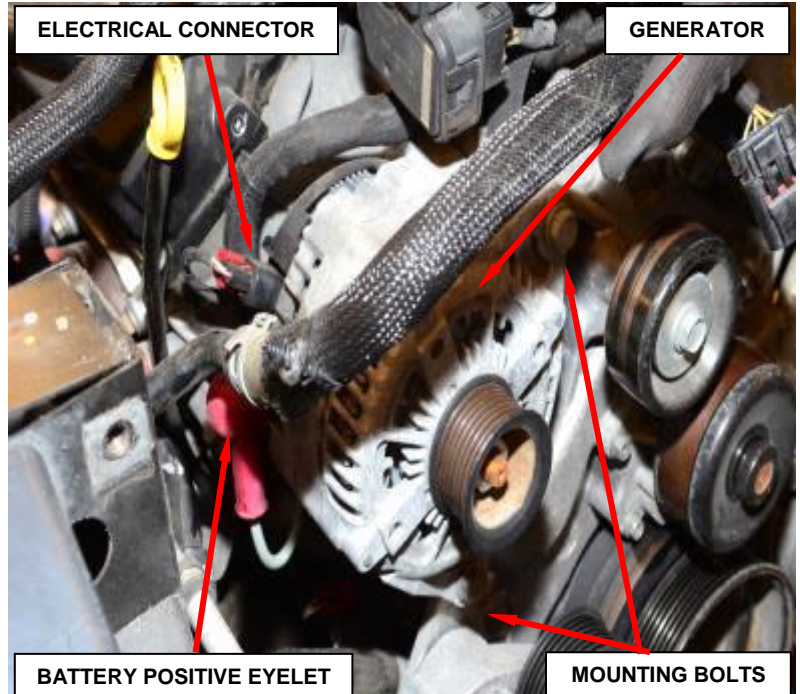

Figure 21 - Generator
20. Use the following steps to disconnect and remove the generator (Figure 21).
- a. Disconnect the generator electrical connector (Figure 21).
- b. Disconnect the battery positive eyelet from the generator (Figure 21).
- c. Remove the two mounting bolts and remove the generator (Figure 21).